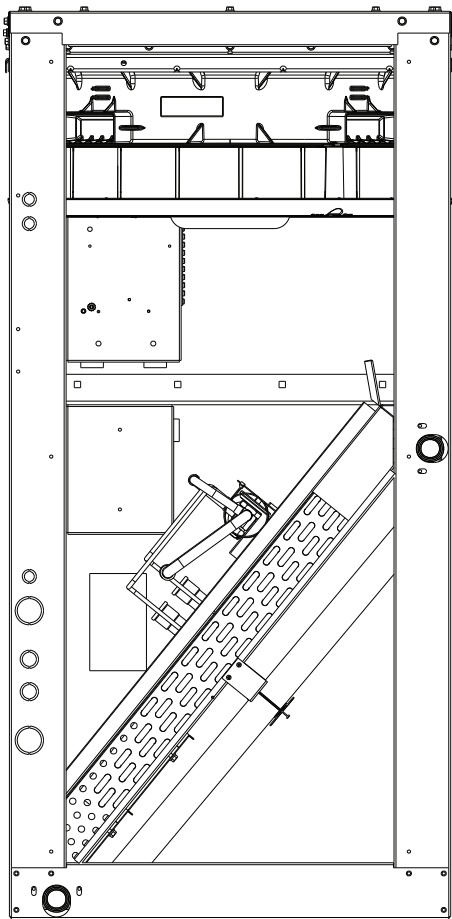

Fig. 27 — Fan Assembly, Side Panel Access (Side Panel Removed)
4. Slide fan assembly out of the panel opening that is being used. Side panel access will require the assembly to be angled to clear the opening. See Fig. 27.